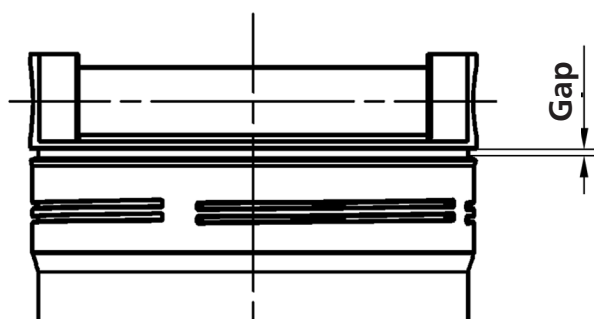

Fig..3: Gap at the filter cover
- › Manually turn the cover until it stops; a gap between cover and housing may remain visible (see Figure 3).